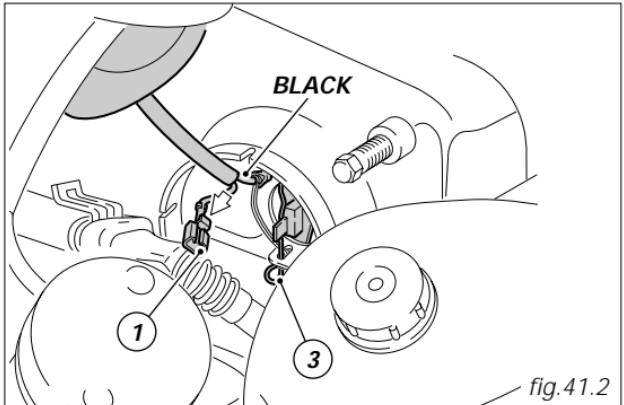

fig.41.2
remove the rubber cover (1). Press the lower quick-release button to disconnect the connector (1, fig. 41.2).
The black ground cable connector does not need to be disconnected to replace the headlamp bulbs. Release the clip (3) that secures the bulb and remove it from the socket (fig. 41.2 and 41.3).